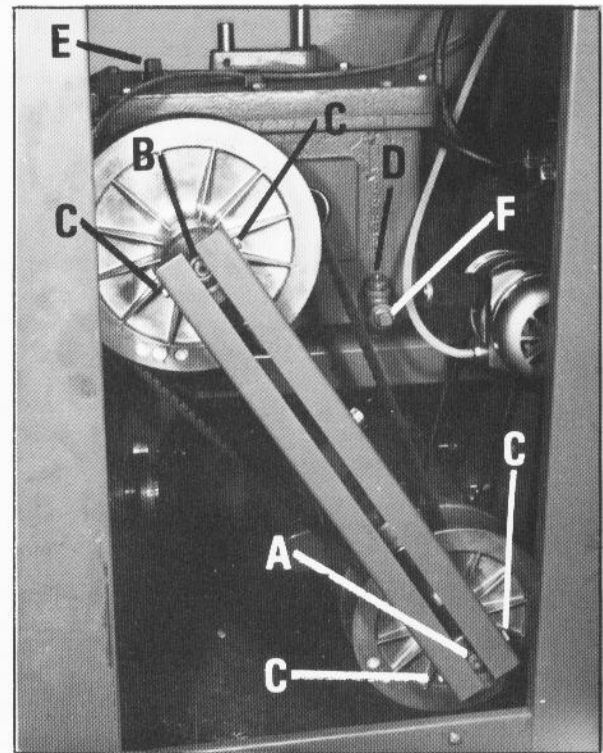

Fig. 7
The correct belt tension is obtained when the distance between the center point of the motor pulley (A) Fig. 7, and the center point of the driven pulley (B) is $18\frac{1}{4}"$.
2. Loosen four screws (C) Fig. 7, loosen the nuts that hold motor to motor plate and move motor up or down until the distance between the center points of the pulleys is $18\frac{1}{4}"$.
The gear case has been filled with 1-1/2 qts. of extreme pressure gear oil, Part No. 999-01-013-1210. The oil level in the gear box should periodically be checked by removing plug (D) Fig. 7, and observing if oil level is to the top of the opening. Gear oil may be added at plug (E). Plug (F) Fig. 7, is a drain plug.